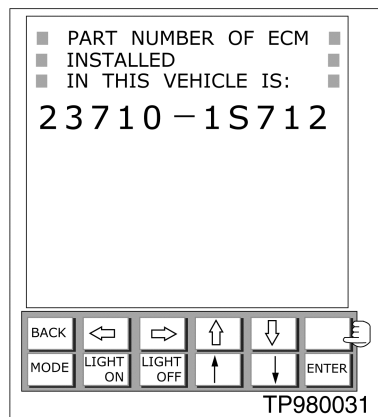

Figure 4
Use CONSULT to display the ECM part number (Figure 4).
2. Touch the blank key on CONSULT's key pad to print the screen (Figure 4).